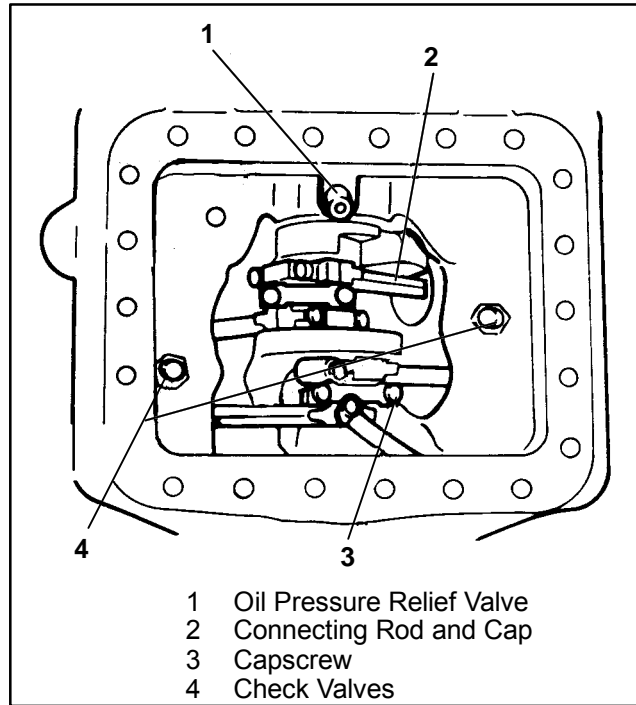

Figure 3-11. Bottom Plate and Oil Strainer Removed
be installed during compressor reassembly. (See Figure 3-11)
- Remove and check operation of oil return check valves (See Figure 3-11). The check valves are free floating devices and can easily be checked visually.
- Remove and check oil pressure relief valve (See Figure 3-11). The oil pressure relief valve is a spring loaded device which can be checked by using a small piece of stiff wire to ensure that the spring can be depressed.
- Check operation and reinstall check valves and relief valve. (See Figure 3-11). The check valves are free-floating devices and can easily be checked visually. The relief valve is a spring-loaded device which can